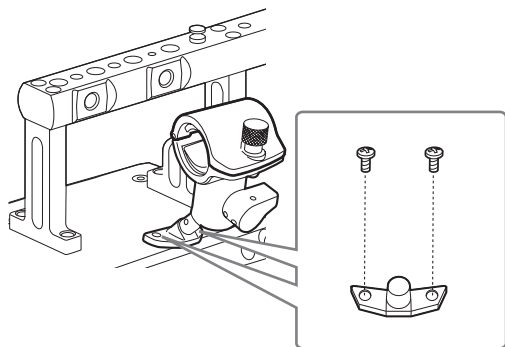

Fig. 1
- 1** Remove the screws at the microphone holder mounting position and attach the microphone holder AJ-MH800G (optional). (Fig. 1)